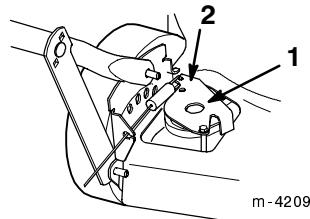

Figure 28
3. Push the drive bracket down until it contacts the lawn mower, then hold it in place (Fig. 28).